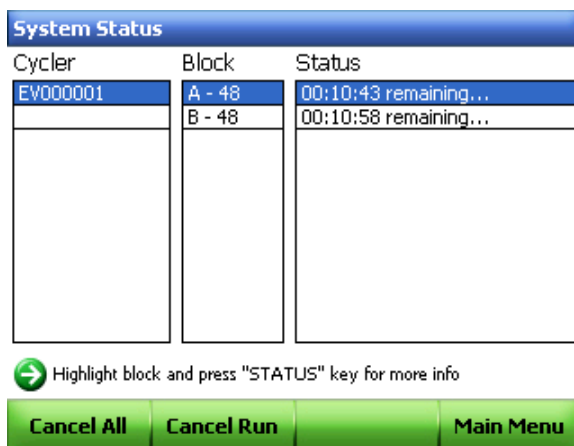

Figure 66. The System Status screen showing multiple blocks running.
1. Select the blocks in the System Status screen (Figure 66).